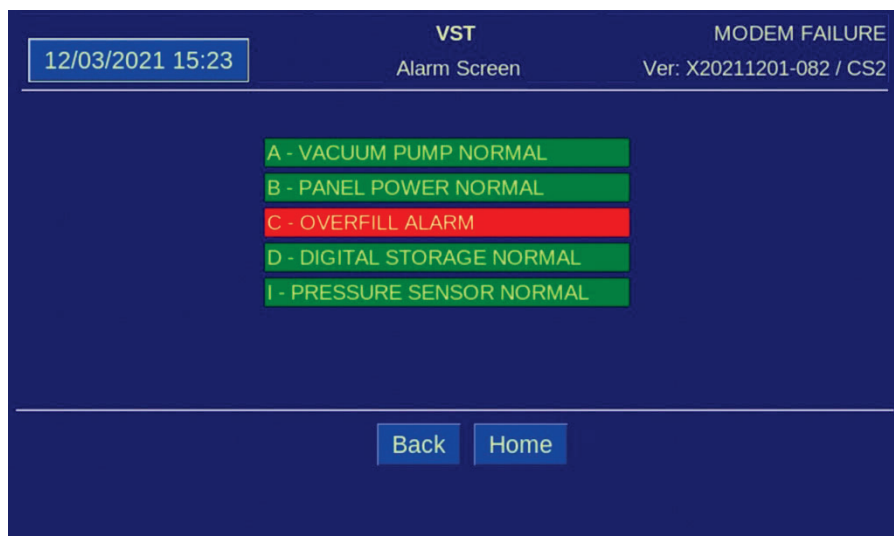

Figure 8-12: GREEN MACHINE PLC Alarm Screen
- A VST Control Panel PLC Overfill Alarm is Active when the Fuel Management System Overfill Alarm is Active. **See Figure 8-12.**